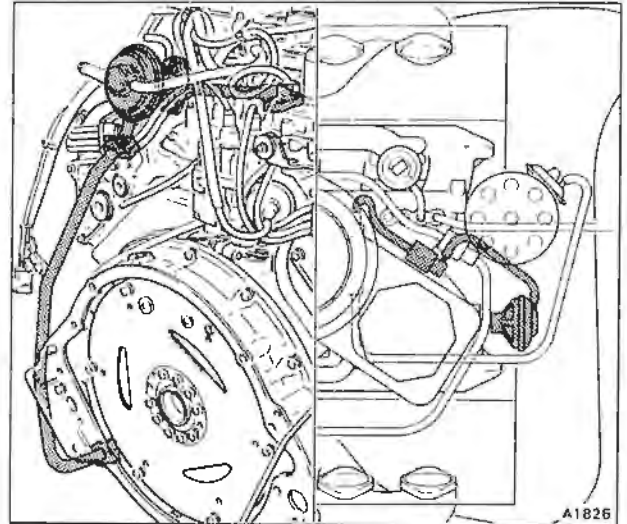

Fig. F3-1 Exhaust gas recirculation system
A proportion of the exhaust gas taken from a connection on the 'B' bank exhaust pipe, is recirculated through a vacuum operated exhaust gas recirculation (EGR) valve, into the induction manifold where it mixes with the intake air (see fig. F3-1). Substantially atmospheric pressure is maintained downstream of the metering valve, so that the recirculation flow is proportional to the exhaust gas flow.
**EGR valve feed pipe – To remove and fit (see fig. F3-1)**